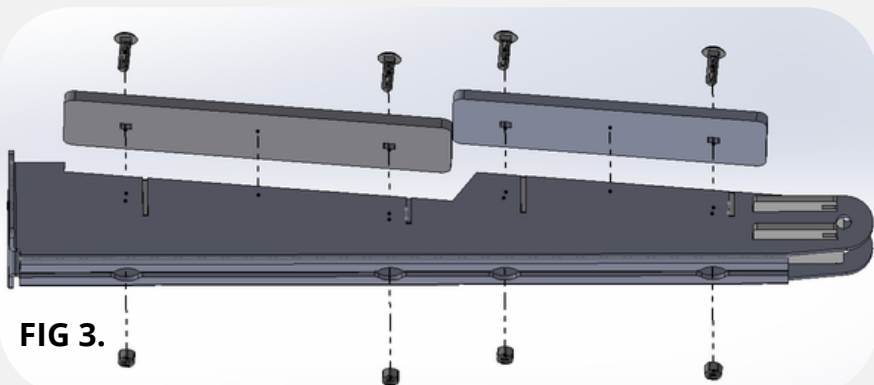

FIG 3.
5. Assemble Stand Protector Plates, to Upright with 3/8" x 1-1/4" Carriage Bolts and 3/8" Nylon Nuts, as shown in Fig. 3. (4 pcs)